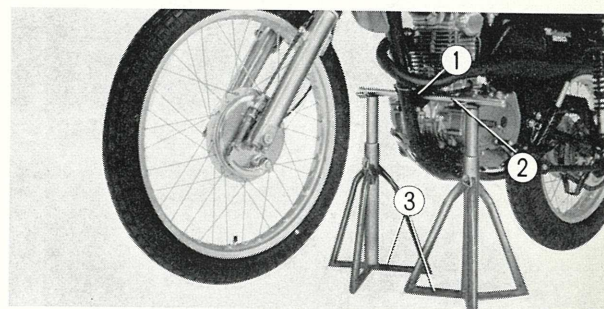

Fig. 2-2 ① Engine mounting flange
1. Place a block as in Fig. 2-2 and raise front wheel off the ground for removal.